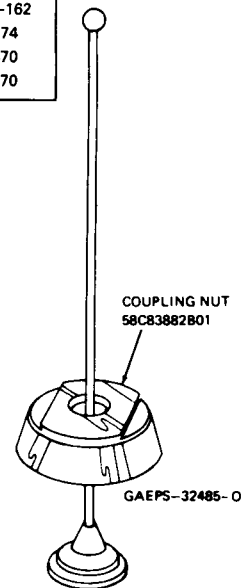

Figure 1. Whip Parts Identification
1.2 Refer to Table 1 for model identification. Figures 1 through 4 identify the component parts of the antenna. Refer to the recommendations for antenna location paragraph at the end of this instruction section for safety information.